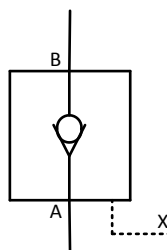

FIG 14.
- G. The symbol for a pilot operated check valve / non return valve is shown in Fig 14.